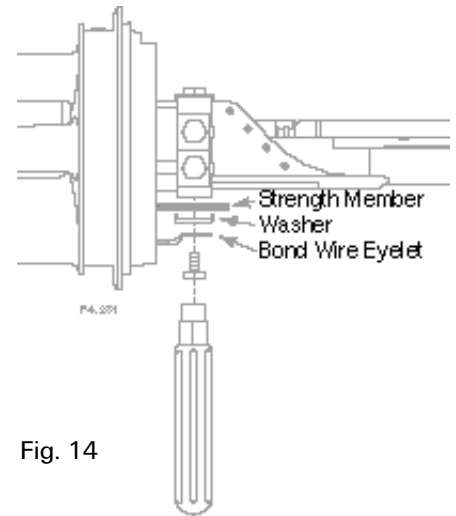

Fig. 14
2. Loosen the square washer and place the central member(s) underneath it. Tighten the square washer to secure the central members against the base. (Figure 14)